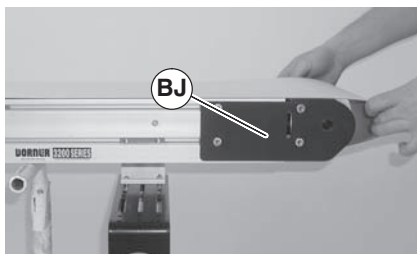

Figure 36
5. Remove belt (Figure 36, item BJ) from conveyor, one stand at a time. Start on one end of conveyor and work down to opposite end.